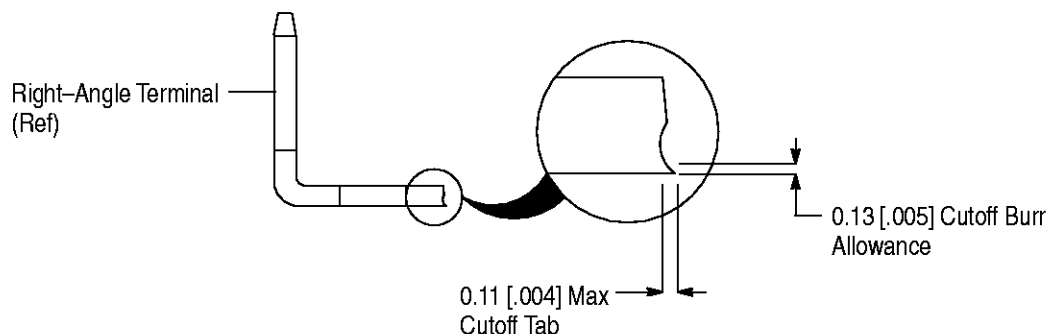

Figure 2
1. The cutoff tab must not exceed the dimension shown in Figure 2.
2. The burr resulting from the cutoff tab shearing must not exceed the dimension shown in Figure 2.